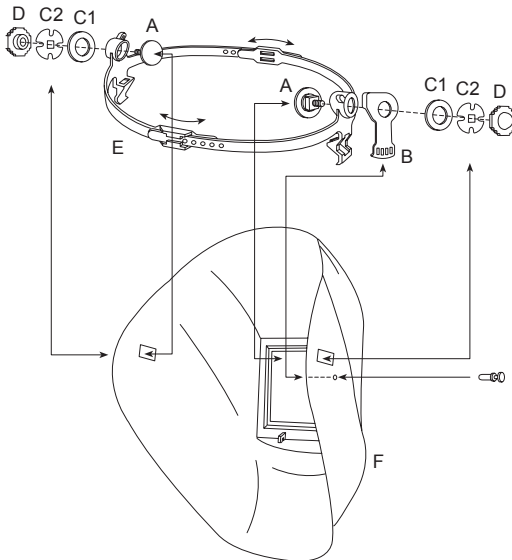
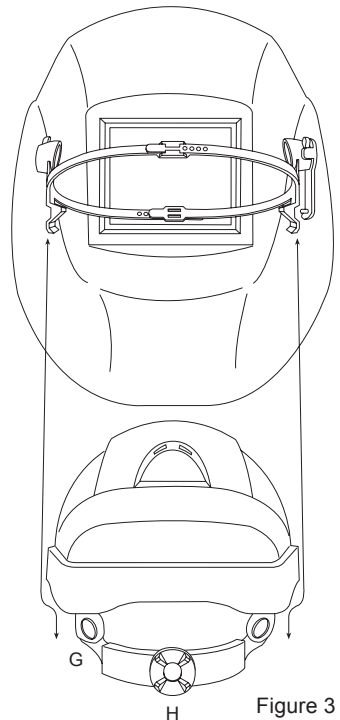

Figure 2
Figure 3
1. Insert screws (A) through the openings in the Speedy Loop (E).
2. Insert the Speedy Loop (E) into the helmet shell (F) as shown on figure 2 and push the screws (A) through the rectangular openings in the helmet shell.
3. Put the tilt adjustment part (B) on the right side between the Speedy loop (E) and the helmet shell (F). Make sure that a small pin is fixed in one of the four holes in the tilt adjustment part. Choose the right hole for your maximum comfort.
4. Tighten the nuts (D) and washers (C1, C2) on the screws (A).
5. Place the helmet with speedy loop over the hard hat as shown on figure 3. Left and right "click" will hold the position. If necessary, adjust the extent/diameter of Speedy Loop for optimum grip on the helmet. Adjust the distance from the face to the welding helmet by coordinated extension/reduction of front and rear part of Speedy Loop in order to find the most comfortable position.
6. The headgear of the hard hat (G) can be adjusted by turning the rear wheel (H) in order to fit any head size. Press the wheel and hold it while turning, release the wheel when reaching the position of maximum comfort, so that it will lock in the required position.